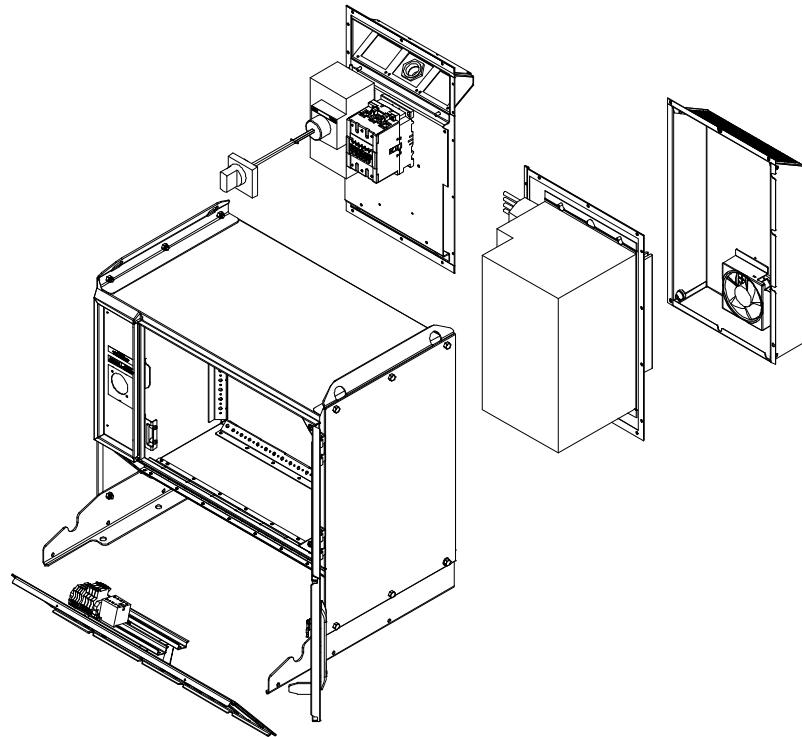

Figure 77 Exploded view drawing of the Spot Welding cabinet.
- Modular built for easy repair and installation (see Figure 77 below)